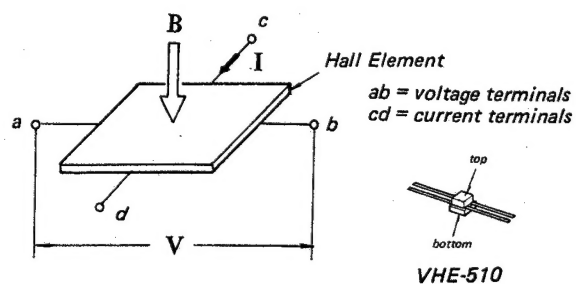

Fig. 1-1.
- \* The Hall Effect: When a current  $I$  flows through a substance, and a magnetic field  $B$  is applied at right angles to the direction of current flow, a potential difference  $V$  will be generated in a direction at right angles to both the current and magnetic field. (See Fig. 1-1.)